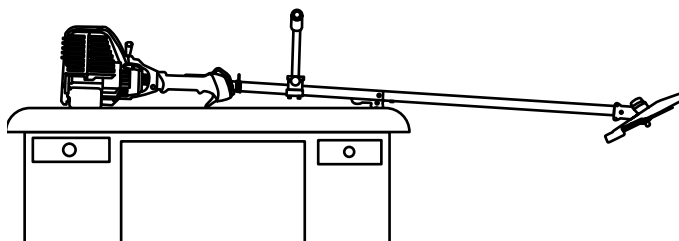

Fig. 40
2. Place the engine on a flat, level surface with the cutting head shield hanging off a work bench or table to get a proper oil level reading (Fig. 40).